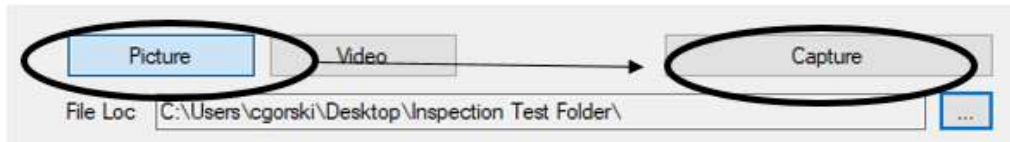

Figure 9
1. Select the 'Picture' Button on the software. Fig. 9
- A. Click 'Capture' on the Healthmark Viewer Software. Fig. 9 Or